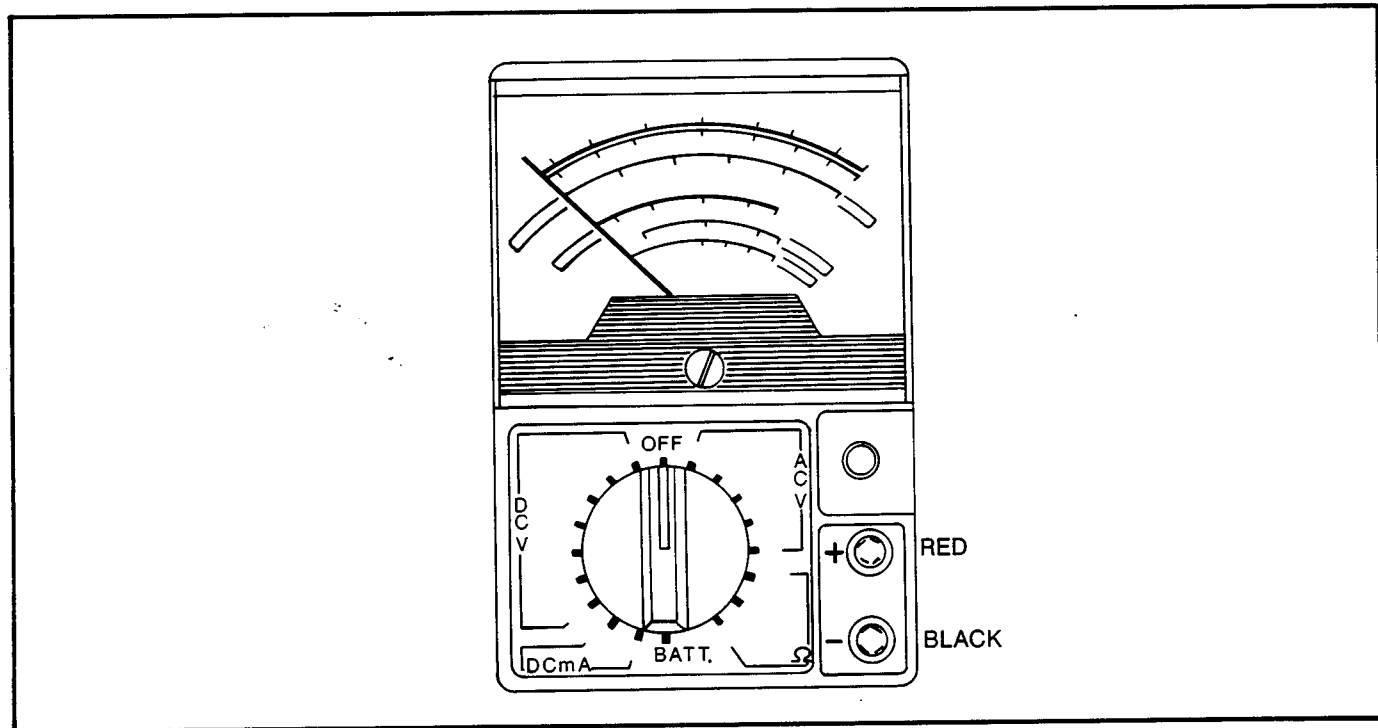

FIG. K-10 VOM SET UP
### TESTING THE HORN CIRCUIT (Fig. K-10, K-12)
1. Check for loose wires at the terminals-connections and for worn insulation or bare wires touching the frame. **Bare wires may cause a short circuit.** Refer to Fig. K-10 for meter set-up.
### TESTING THE HEADLIGHTS AND TAILLIGHTS CIRCUIT (Fig. K-10, K-13, K-14, K-15)
**BRAKE LIGHT CIRCUIT (IF EQUIPPED)** (Fig. K-10, K-16, K-17)
**I. BRAKE LIGHTS** (Fig. K-10, K-16, K-17)
### TESTING THE TURN SIGNAL/FLASHER CIRCUIT (Fig. K-10, K-18, K-19)